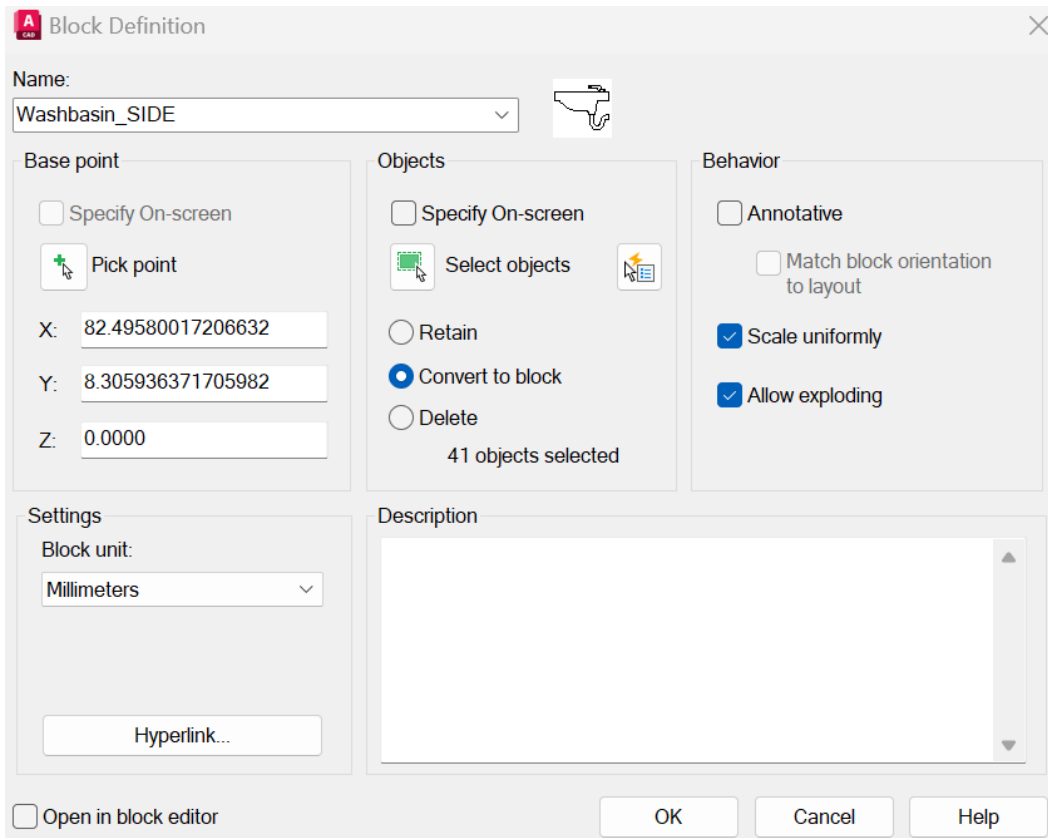

Figure 12.13: The settings in the Block Definition dialog box
16. Check that all the other settings in the **Block Definition** dialog box match what is shown in *Figure 12.13* and click on **OK**.